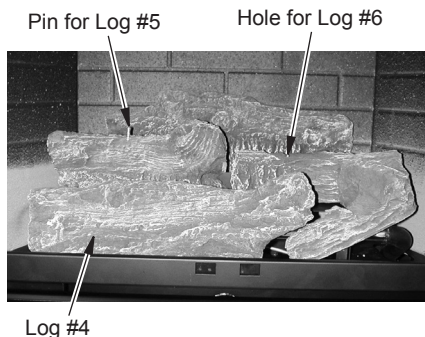

Figure 18 - Installing Log #4
4. Install pins on log #4 onto the two slots in the front bracket (see Figure 16 and Figure 18).
5. Insert the recessed hole on the bottom of log #5 onto the pin on log #2 (see Figures 18 and 19).
6. Insert the pin on log #6 into the hole on log #3 (see Figures 18 and 19).